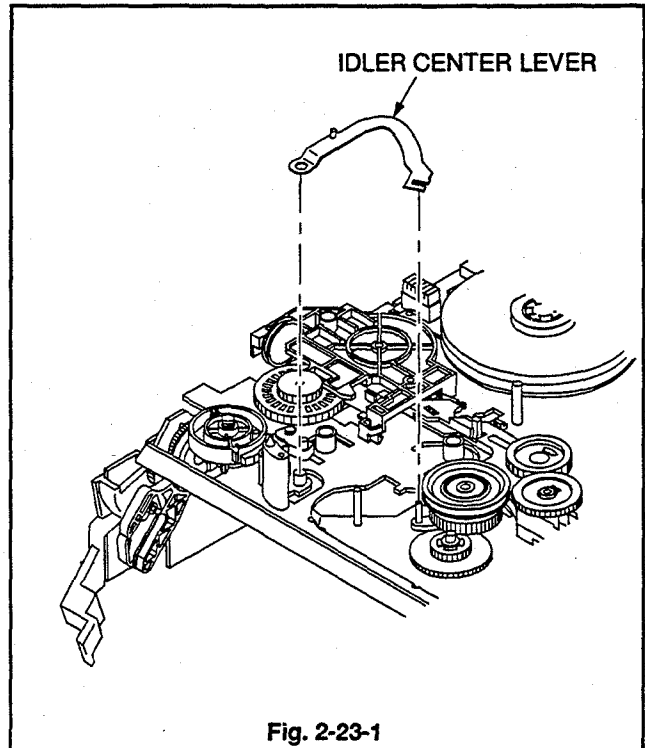

Fig. 2-23-1
1. Remove the IDLER CENTER LEVER shown in Fig. 2-23-1.